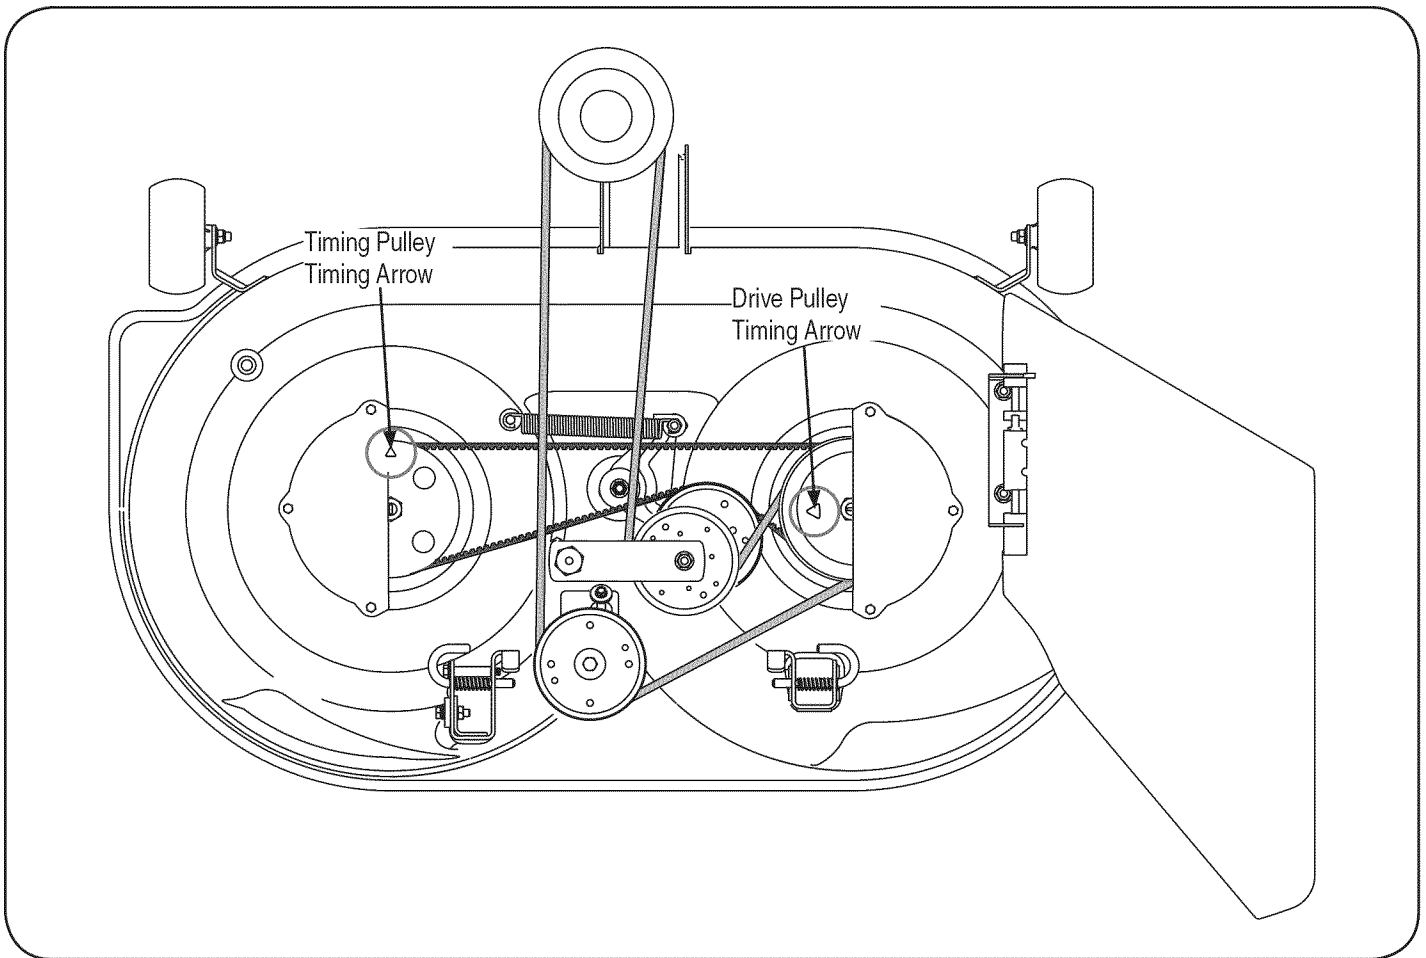
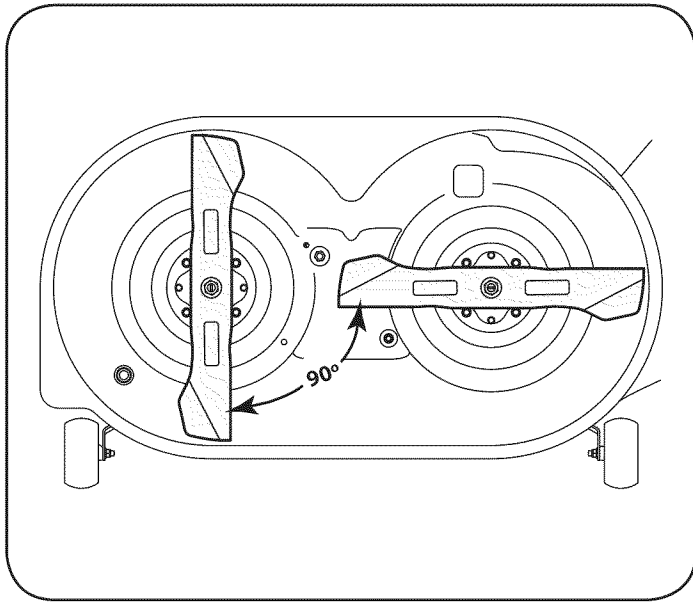

Figure 23
Figure 24
- Note the arrows on the top of the timing pulley on the LH spindle and on the drive pulley of the RH spindle assembly. These timing arrows **MUST** be positioned 90° from each other as shown in Figure 23.
- Turn the LH timing pulley so that its timing arrow is 90° from the RH spindle assembly timing arrow. Refer to Figure 23.
- After making sure the spring is hooked onto the idler bracket and screw, pivot the timing idler bracket/idler pulley against the spring tension just far enough to allow you to lower the backside of the timing belt onto the idler pulley. See Figure 23.
- Re-check the timing arrows on the two pulleys. If they have moved from the 90° position when tensioning the timing belt, pivot the idler pulley to relieve tension on the belt and re-position the pulleys. **The timing arrows MUST be positioned 90° from each other as shown in Figure 23.**
15. If the timing belt was installed correctly and the timing arrows were positioned as shown in Figure 23, the cutting blades should be in the position shown in Figure 24.